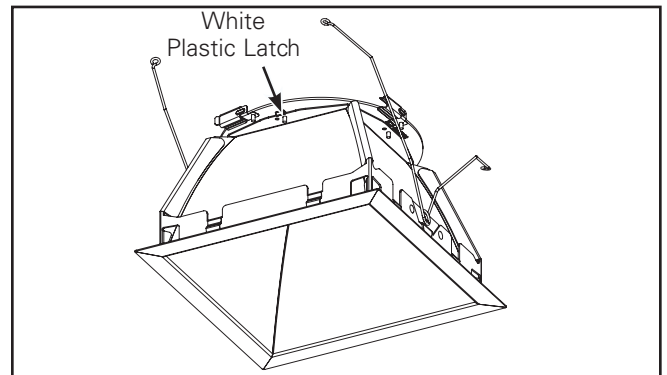

Figure 10
1. Press in on white plastic latch to remove upper reflector and clean lens. (Figure 10 & 11.)